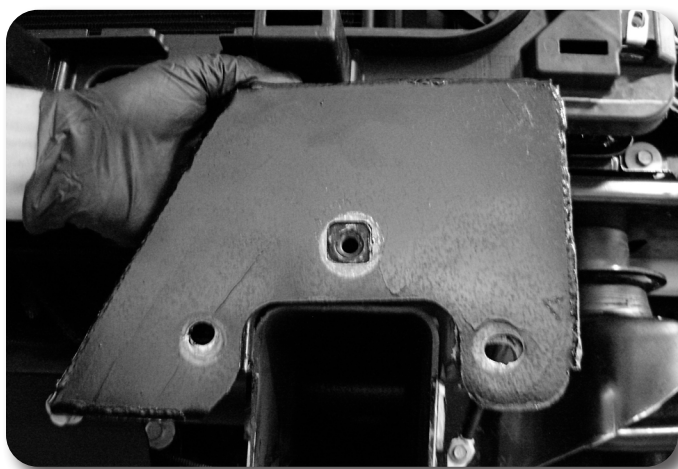

Figure 15
26. Install the new front bumper brackets with the provided 7/16" x 1" bolts, 7/16" USS Washers, and flange lock nuts on each side hole. Using the witness marks of the square hole from the factory bracket, line up the bracket and tighten the 7/16" bolts by hand to hold the position of the bracket. **Figure 15** Re-install the factory bolt at the center location and tighten all hardware.